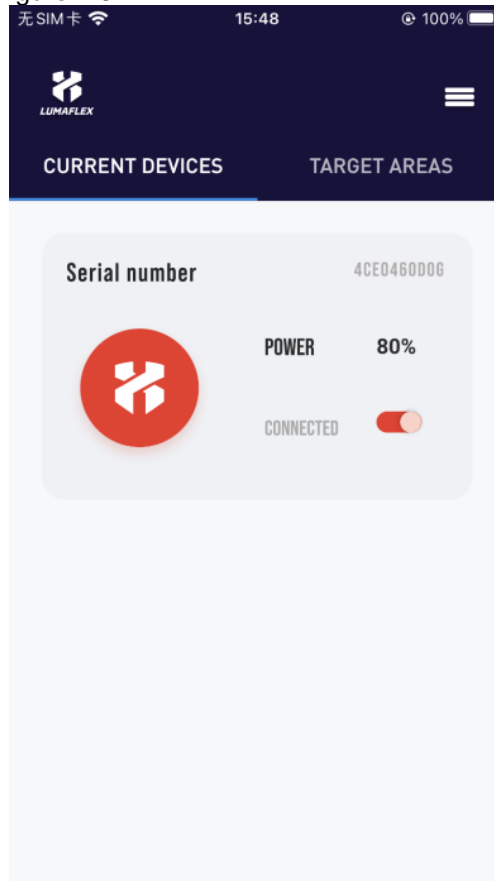

Figure 4.6-3
- Click the searched device, see figure 4.6-3. If connect successfully, the interface will skip